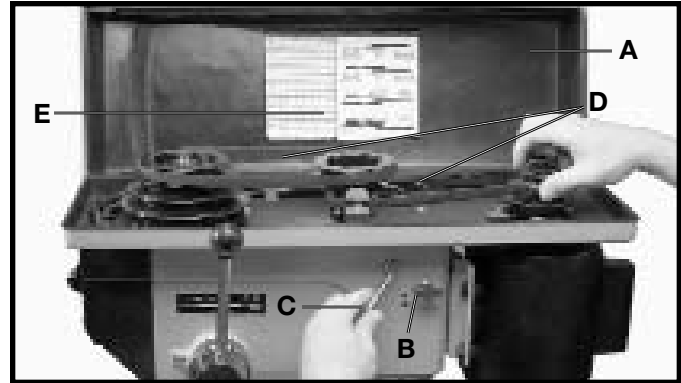

Fig. 24
2. Raise the belt and pulley guard (A) Fig. 24.
3. Release tension on the belt by loosening lock knob (B) Fig. 24, and the tension knob located on the other side of the head casting and moving tension lever (C) forward.
4. Position both belts (D) Fig. 24, on the desired steps of the spindle, center, and motor pulleys as shown. Refer to chart (E) Fig. 24, which is conveniently located on the underside of the belt and pulley guard (A) for belt position and speed charts.